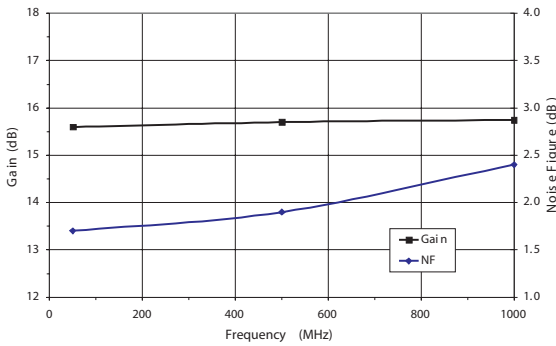

Figure 7: Gain and Noise Figure vs. Supply Voltage - S3 Packaged Device
(1) 160 channels, +17 dBmV per channel (measured at output), 6 MHz channel spacing.
(2) 80 channels, +19 dBmV per channel (measured at output), 6 MHz channel spacing.
(3) Two tones, -10 dBm per tone at input.
(4) The device can be operated at V_{DD} = +6 VDC for lower power dissipation. Refer to Figures 7, 8, 13, and 16 for performance variation with supply voltage.